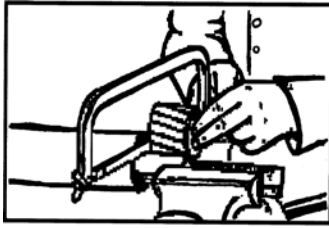

Fig.3
6. Saw off the profile tube. Attention: the profile tube must be 10 mm longer than the protection. (Fig. 3)